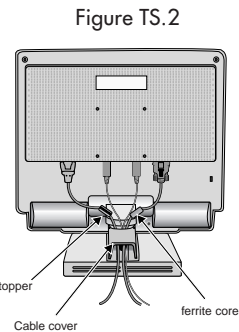

Figure TS.2
1. When setting up your connection cables, be sure to leave the stopper and ferrite core above the cable cover (Figure TS.2).